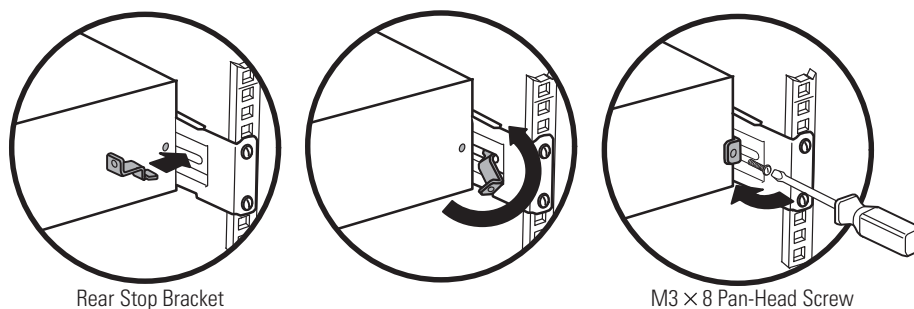

**Figure 7. Securing the Front of the Cabinet**
12. Secure the front of the UPS to the rack using two M6x16 pan-head screws and two M6 cage nuts on each side (see Figure 7). Install the bottom screw on each side through the bottom hole of the mounting bracket and the bottom hole of the rail.